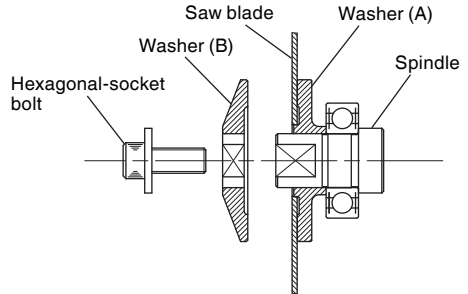

Fig. 8-1
- (1) Thoroughly remove any sawdust which has accumulated on the spindle, bolt and washers.
- (2) For saw blades with hole diameters of 20 mm and 30 mm, as shown in Fig. 8-1, the side of Washer (A) with a projected center the same diameter as the inner diameter of the saw blade and the concave side of Washer (B) must be fitted to the saw blade sides.